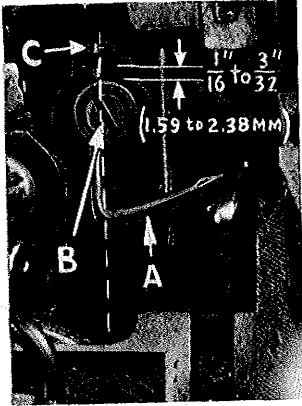

Fig. 9
Insert upper looper (A, Fig. 9) in its holder. Screw (B), holds upper looper in its holder, and permits it to be pushed in or out or turned around its shank. Insert upper looper holder into upper looper shaft, if it is not already in place. Screw (C), on clamp holds the upper looper holder in the shaft. Locate upper looper in its holder so that the shank extends $1/16$ to $3/32$ inch (1.59 to 2.38 mm) beyond holder (Fig. 9) for Styles 39500 QS, QT, RD, RL, RT, TJ, TM and TT. For Style 39500 TK the shank should extend $1/8$ inch (3.17 mm) beyond holder.
When the upper looper is at the right end of its stroke, upper looper holder should be set to position upper looper shank approximately vertical on Styles 39500 QS, QT, RT, TJ, TM and TT (Fig. 9).